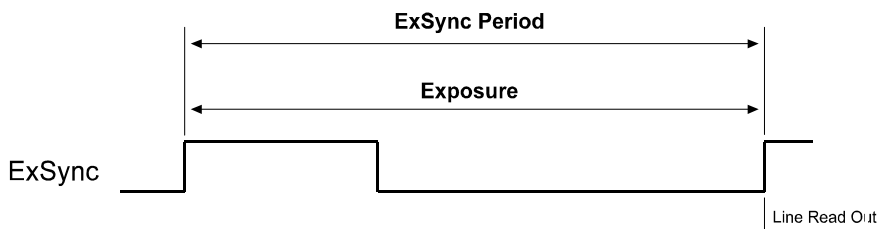

Figure 3-2: ExSync, Edge-Controlled Mode
- In **ExSync, edge-controlled** mode, the pixels are exposed and charge is accumulated over the full period of the ExSync signal (rising edge to rising edge). The falling edge of the ExSync signal is irrelevant. The line is read out and transferred on the rising edge of ExSync (see Figure 3-2).